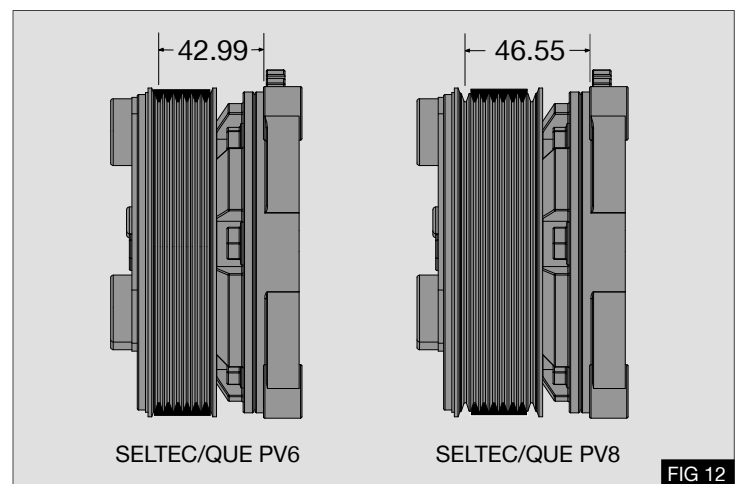

FIG 12
8. Refit the original drive belt (1) previously removed as shown in Fig 12.
**WARNING:** The compressor drive belt ⑮ must be fitted one groove back as shown in Fig 12 if using an PV8 Compressor